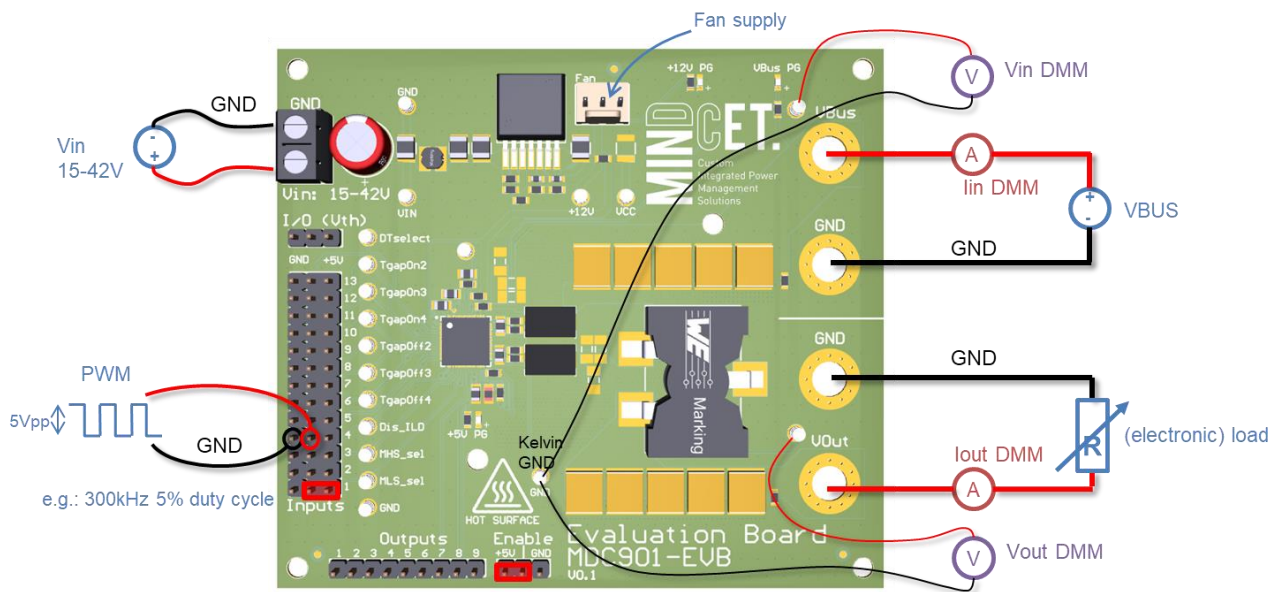

Figure 6: Standard EVB setup with external supply connections in automatic dead time mode
7. Connect fan supply cable to “Fan supply” header, labeled accordingly in Figure 6